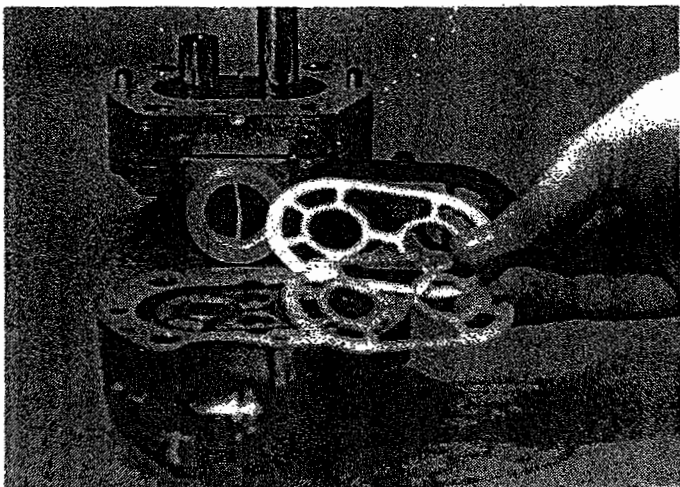

Fig. 6
7. After flange has been removed, remove nylon backup (Item 14), paper backup (Item 13), and rubber gasket (Item 12). (Fig. 6)